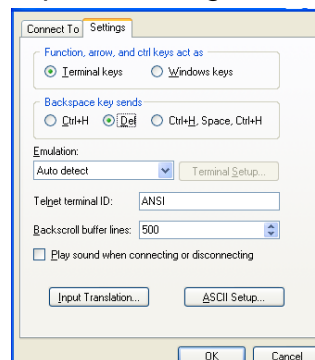

Figure 20 HyperTerminal Settings
4. Click on File, and Properties. On the Properties window, click on the Settings tab. On the Settings tab, verify settings match Figure 20.